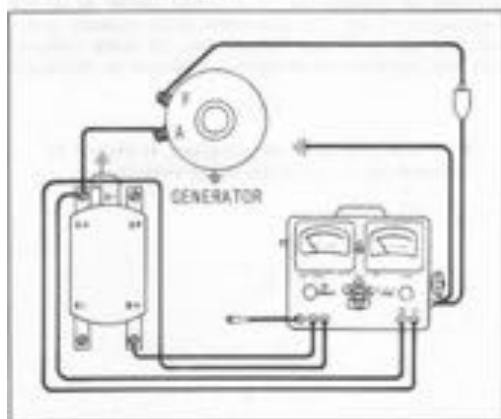

Figure 51-13.
B. TESTER CONNECTIONS (SEE FIG. 51-13)